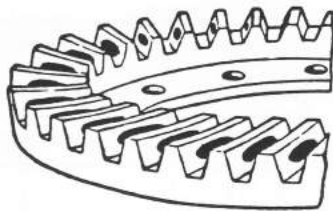

Fig. 27
- a. Clean the bevel gear and the transmission shaft pinion gear and apply red lead uniformly to 8 ~ 9 teeth on the bevel gear (Fig. 27).